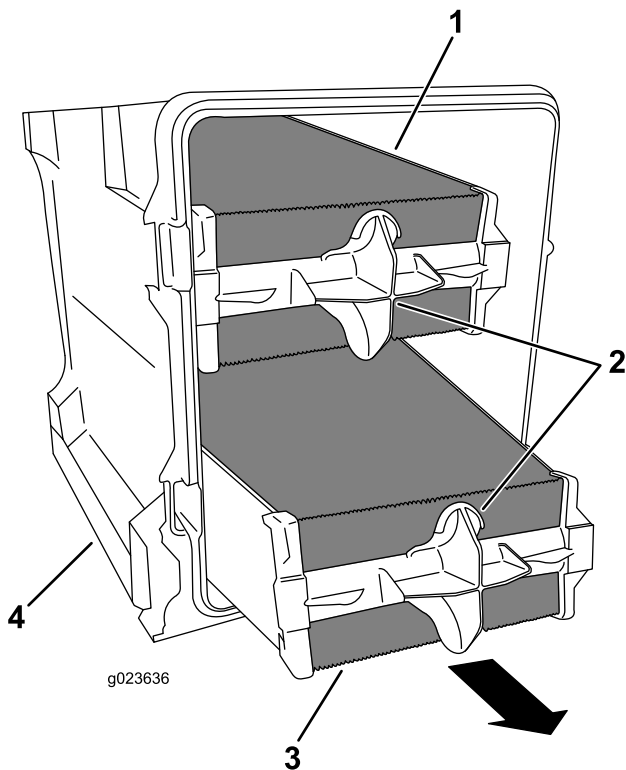

Figure 119
4. Using the air-filter handles, remove the primary filter from the air-cleaner cover (Figure 119).